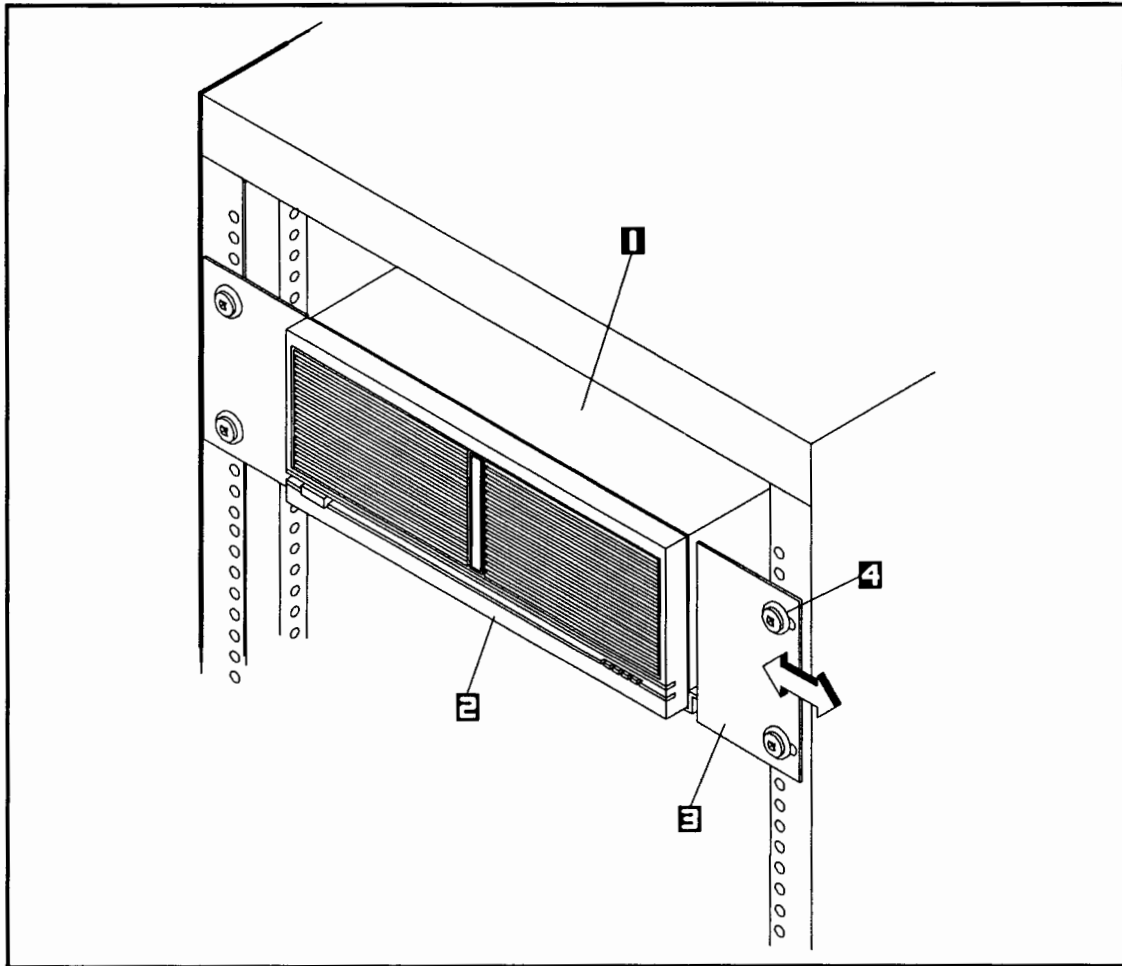

Figure 1-3. Installing the Disk Storage System in an HP 46299A Cabinet
2. Loosen the two screws securing each flange to the cabinet. See Figure 1-3.